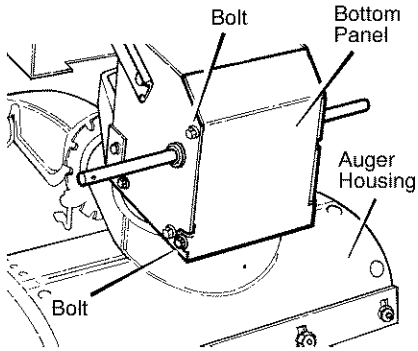

Figure 26
2. Loosen the **bolts** on each side of the **bottom panel** (see Figure 26).
### 13. Install the **bottom panel** (see Figure 26).
13. Install the **bottom panel** (see Figure 26).